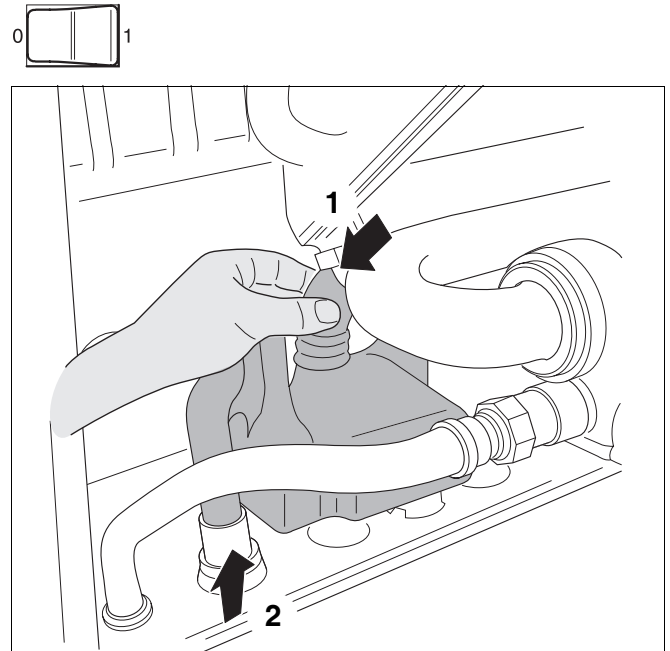

Fig. 48 Condensate trap
- Pull the condensate trap from the condensate plate (fig. 48, pos. 1).
- Loosen the condensate trap from the connection (fig. 48, pos. 2) and remove it.